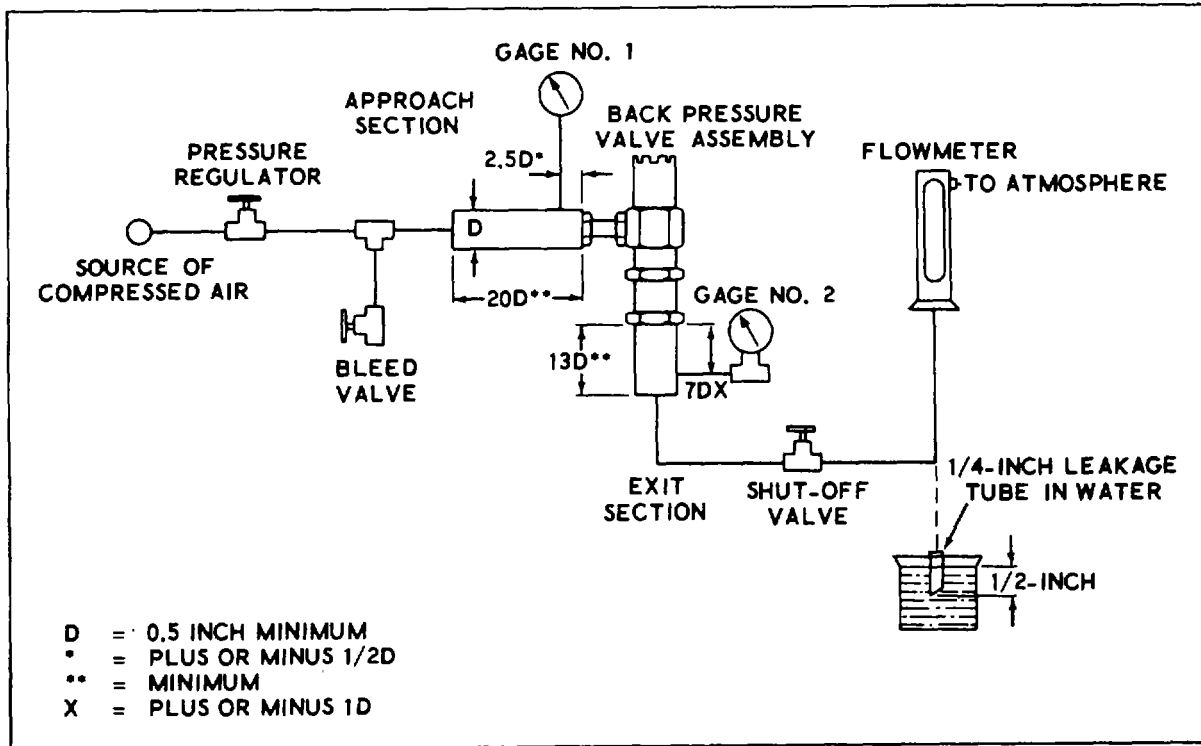

Figure 2-1. Back Pressure Valve Test Set-Up
a. Install the back pressure valve into the test setup illustrated in figure 2-1.